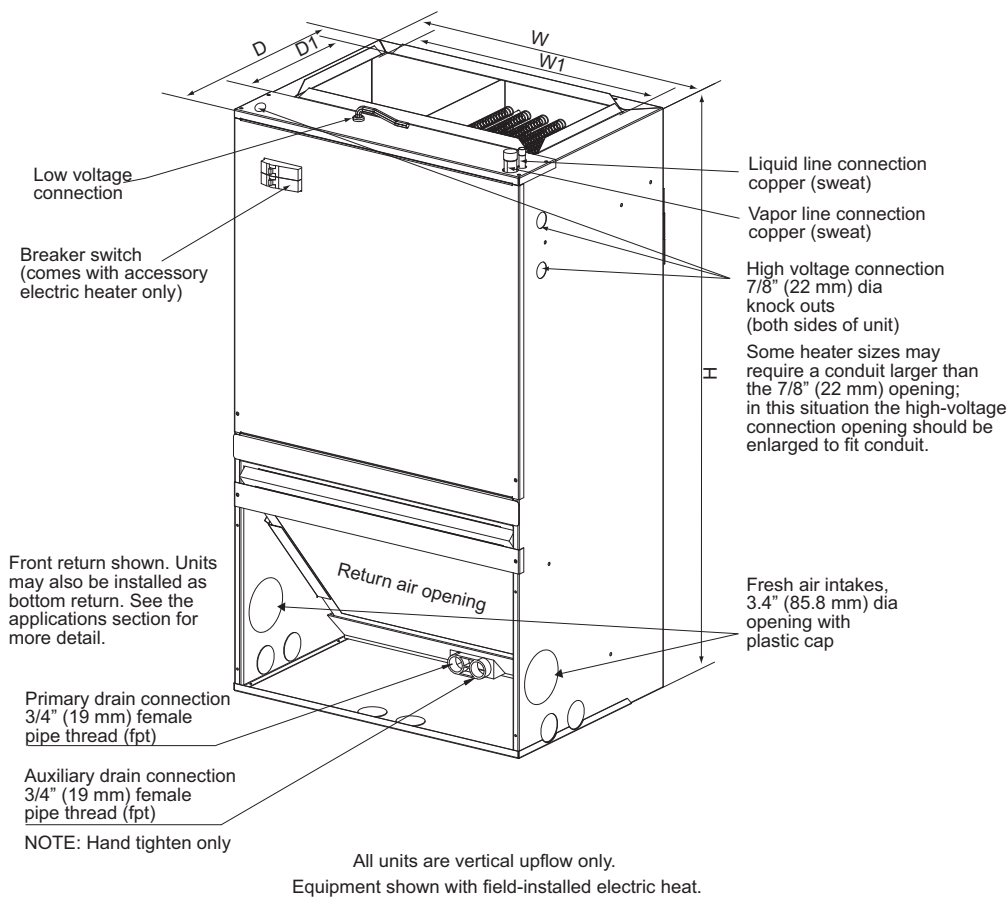
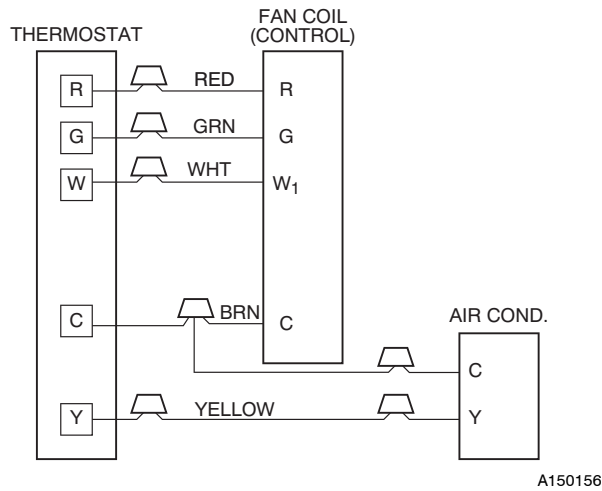

Fig. 1 - Dimensional Drawing with Circuit Breaker
Fig. 6 - Wiring Layout Air Conditioning Unit (Cooling and 1-Stage Heat)
NOTE: Minimum clearance of 21" (533 mm) is required in front of access panel for servicing only. Installation clearance from combustible materials is 0" (0 mm) from cabinet and supply-air duct (plenum included). Ensure there is adequate space on top of unit for refrigerant line connections and on bottom of unit for condensate trap. (See Fig. 1 and 2.)
See Fig. 6 and 7 for field low-voltage wiring. See Fig. 1 for location of the electrical inlets. For maximum ampacity and over-current protection, see unit rating plate or product data sheet.
5. Connect low-voltage leads to thermostat and outdoor unit. See Fig. 6 and 7 as well as the outdoor unit wiring label.